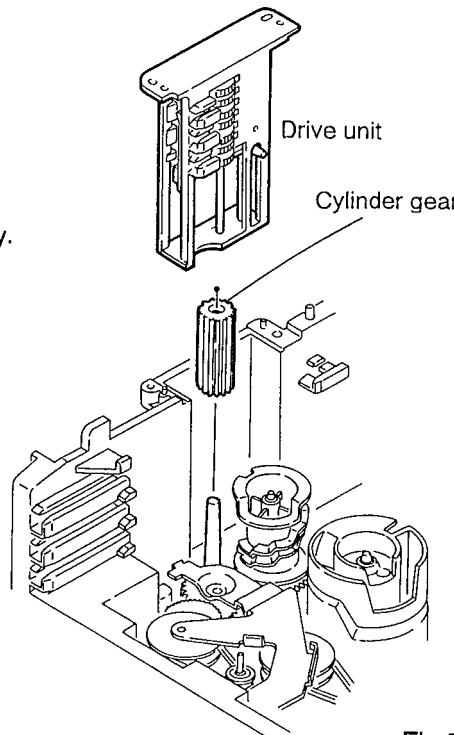

Fig.5-51
- Pull out the drive unit and cylinder gear (See Fig. 5-51).